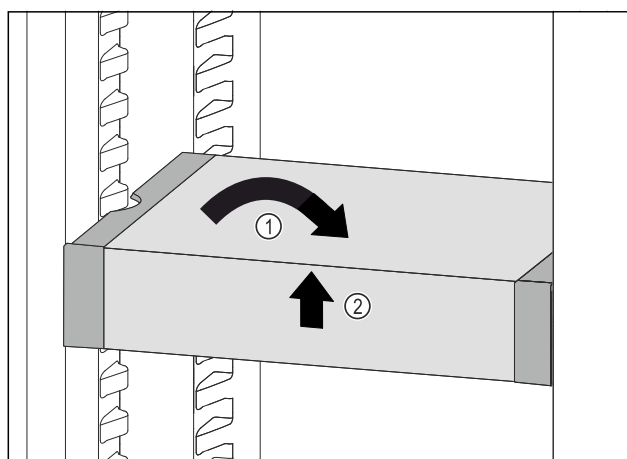

Fig. 89
- Set VarioSafe straight. Fig. 89 (1)
- Lift VarioSafe at the front. *Fig. 89 (2)*